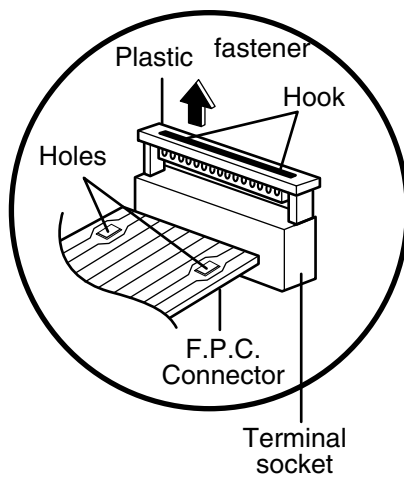

Figure 5
- (2) Lift up the lever of the plastic fastener from the terminal socket by lightly pressing the lever end with forefinger. (Figure 5)
- (3) Remove the F.P.C. connector from the terminal socket.